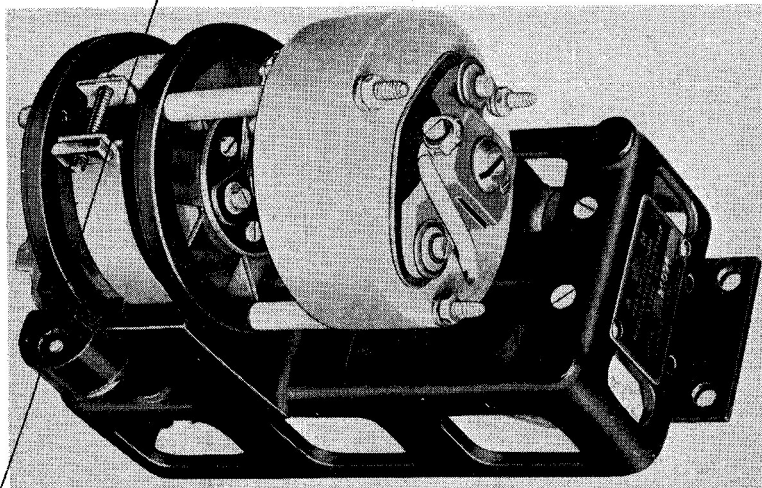
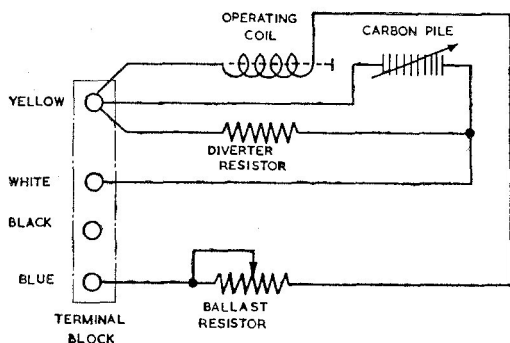

Fig. 1. Voltage regulator, Type 13
Fig. 2. Circuit diagram
3. The voltage regulator, Type 13, is of the series carbon pile type, where the pile is connected in series with the input and the operating coil across the output. A general view is given in fig. 1, and the internal connections in fig. 2.